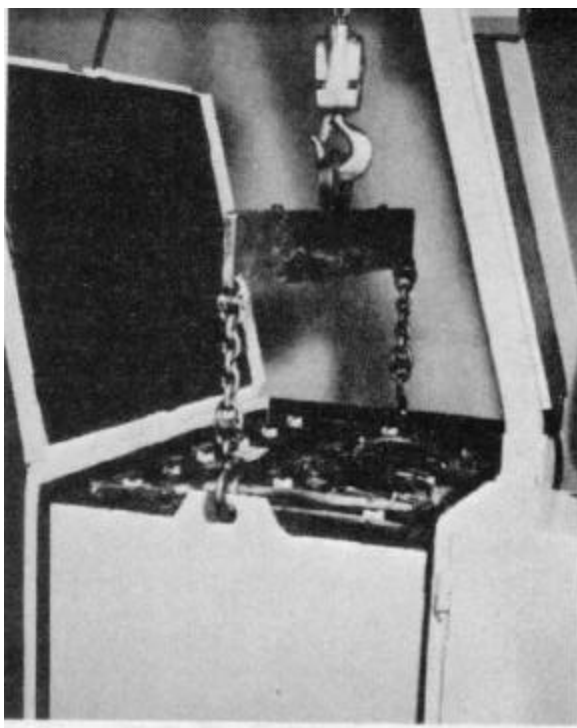

Figure 5-99
7. Attach a spreader bar with chains and hooks to an overhead crane of lift truck with a jib-boom attachment (Fig. 5-99).
8. Attach the spreader bar chain hooks to the lifting eyes at the sides of the battery (Fig. 5-99).
9. Raise the battery to a height clearing the compartment's side walls and remove from either side of the compartment (Fig. 5-99).